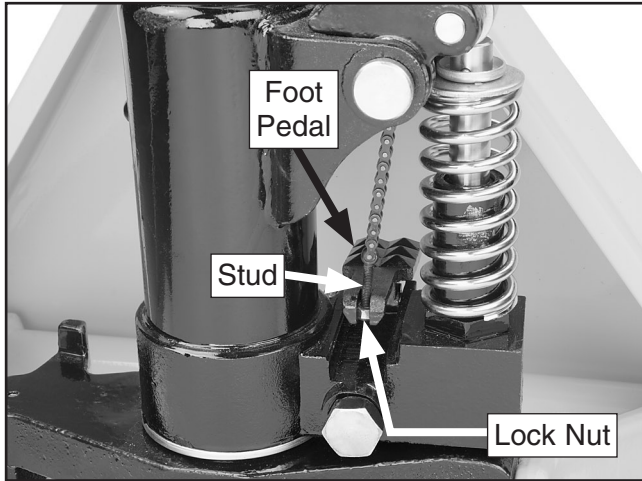

Figure 7. Stud and nut installed into foot pedal.
- Lift the foot pedal (see **Figure 7**), then slide the stud and lock nut into the groove on the pedal.